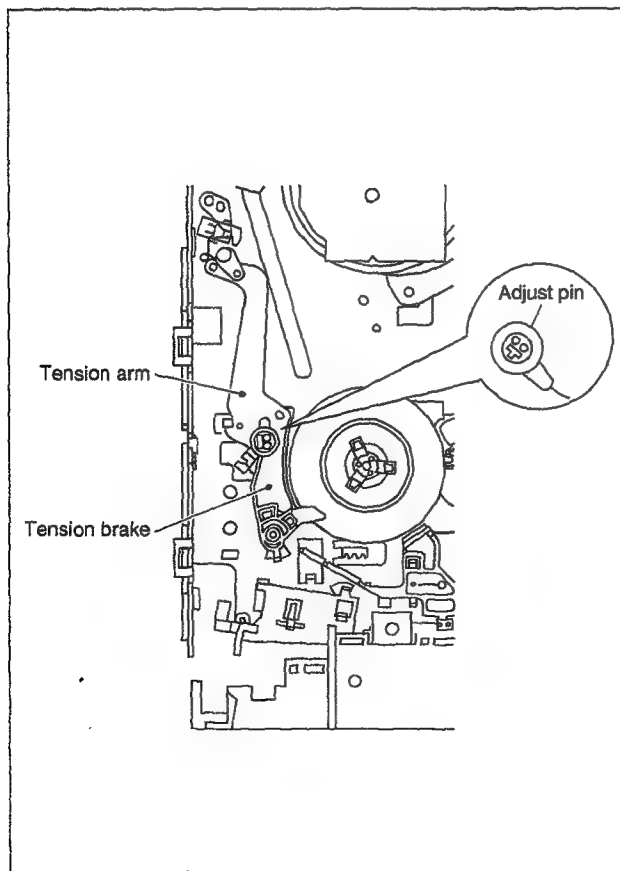

Fig. 2-4-8
- 2) While in the Play mode, turn the adjustment pin with a straight-slot screwdriver while taking care not to touch the 2.5 mm dia. pole. (See Fig.2-4-8).